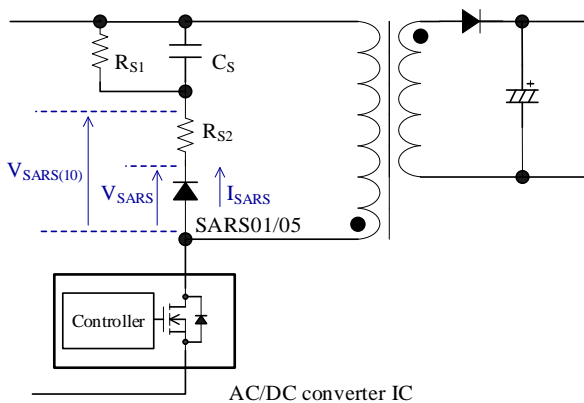
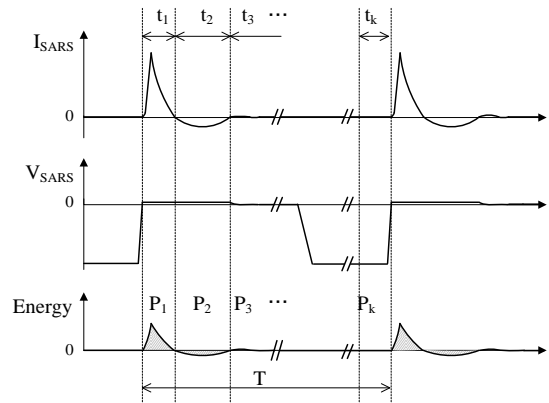

Figure 19. Typical Application
Figure 20. SARS01/05 Current
Figure 19 shows a typical application using the SARS01/05. Figure 20 shows the operating waveforms of the SARS01/05. The power dissipation of the SARS01/05 is calculated as follows:
- 2) The each average energy ($P_1, P_2 \dots P_k$) is measured at period of each polarity of $V_{SARS} \times I_{SARS}$ ($t_1, t_2, \dots t_k$) as shown in Figure 19 by the automatic measurement function of the oscilloscope.
- 3) The power dissipation of the SARS01/05, P_{SARS} , is calculated by Equation (1):